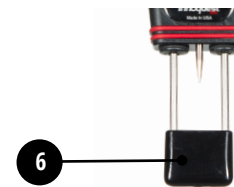

Fig. 1
Turn on the meter by pressing the POWER button (2) in Fig. 1. The display will first show the selected media and EC type. To change these settings, see **Changing The Media & EC Type**. Next, the display will show the battery life in a graphical representation and the meter's serial number. The display then shows the current volumetric moisture content in %, the temperature in °F or °C, and the bulk or pore electrical conductivity (EC) value in milli-Siemens/cm. (1 mS/cm = 1 dS/m)